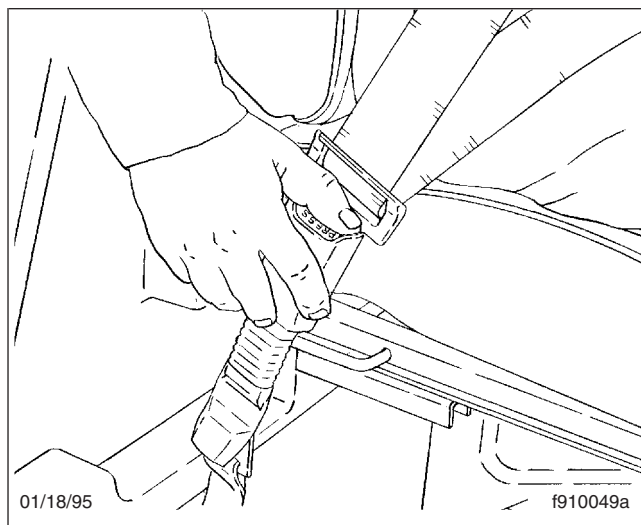

Fig. 6.12, Releasing the Three-Point Seat Belt
*If equipped with a Sliding Komfort Latch, unbuckle the seat belt (**Fig. 6.12**), then tug on the shoulder belt to release the Sliding Komfort Latch, or press the Sliding Komfort latch to the "OFF" position, then unbuckle the seat belt.*
*If equipped with a Komfort Latch, unbuckle the seat belt (**Fig. 6.12**), then release the Komfort Latch by giving the shoulder belt a quick tug. If you lean forward against the shoulder belt, the Komfort Latch will automatically release, and will need to be reset.*
6. To unbuckle the seat belt, press the release button on the buckle. See Fig. 6.12.